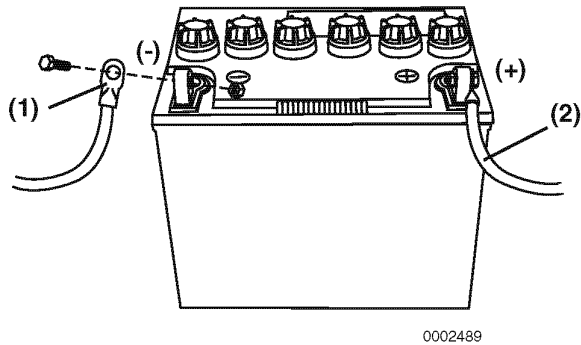

Figure 4-27
1. When disconnecting cables, loosen and disconnect negative (-) cable (**Figure 4-27, (1)**) first from battery.
2. Disconnect positive (+) cable (**Figure 4-27, (2)**) from battery last.